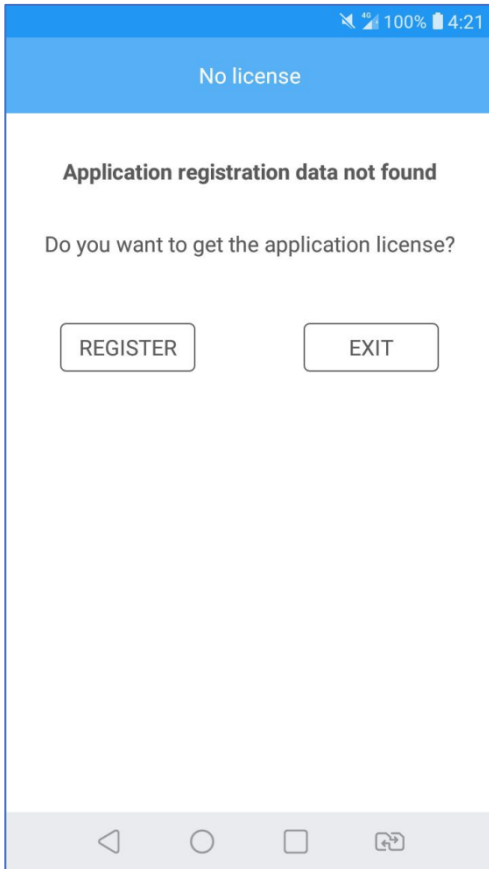

fig.2.1. License key generation request
- 3) During the first launch Dashdrive app will offer to get an application license (fig.2.1). Click “**Register**”.